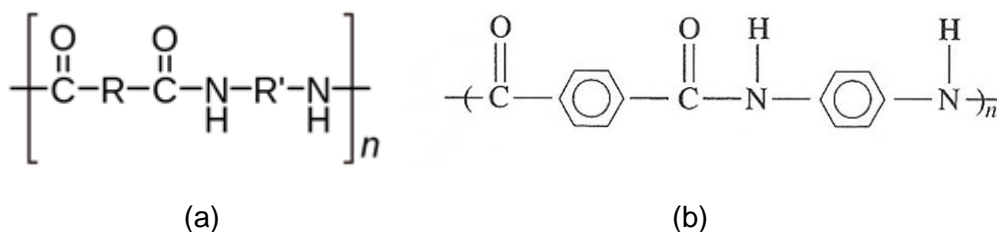

Figure 2: Repeat units for (a) Nylon (aliphatic) (b) Kevlar[®] (aromatic)
Polymers with no aromatic rings in backbone (aliphatic) tend to be more flexible and have a high elongation before fracture. Aromatic rings in the polymer backbone tend to increase the strength, stiffness, and Tg of the polymer, but reduces the amount of elongation before fracture. Aromatic rings also improve flammability properties of a polymer, but are susceptible to degradation from ultraviolet (UV) radiation. Figure 2 shows the repeat units for two similar polymers with different backbone structures [1].